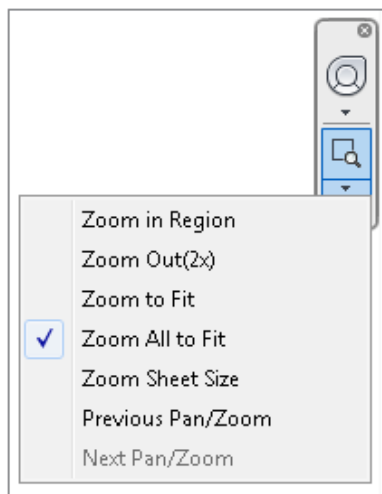

FIGURE 1.17 Use Zoom All To Fit when you're using tiled windows.
4. In either view, find the Navigation bar, click the drop-down arrow under the Zoom icon, and then click Zoom All To Fit, as shown in Figure 1.17.